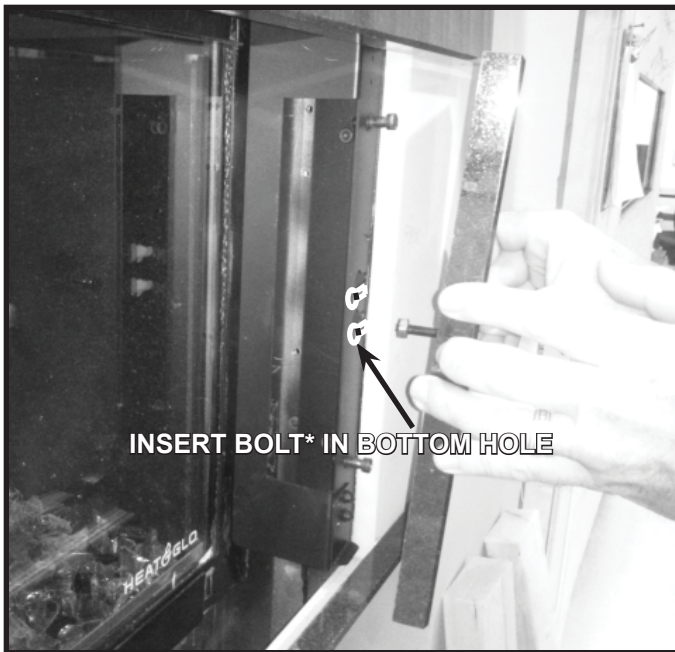
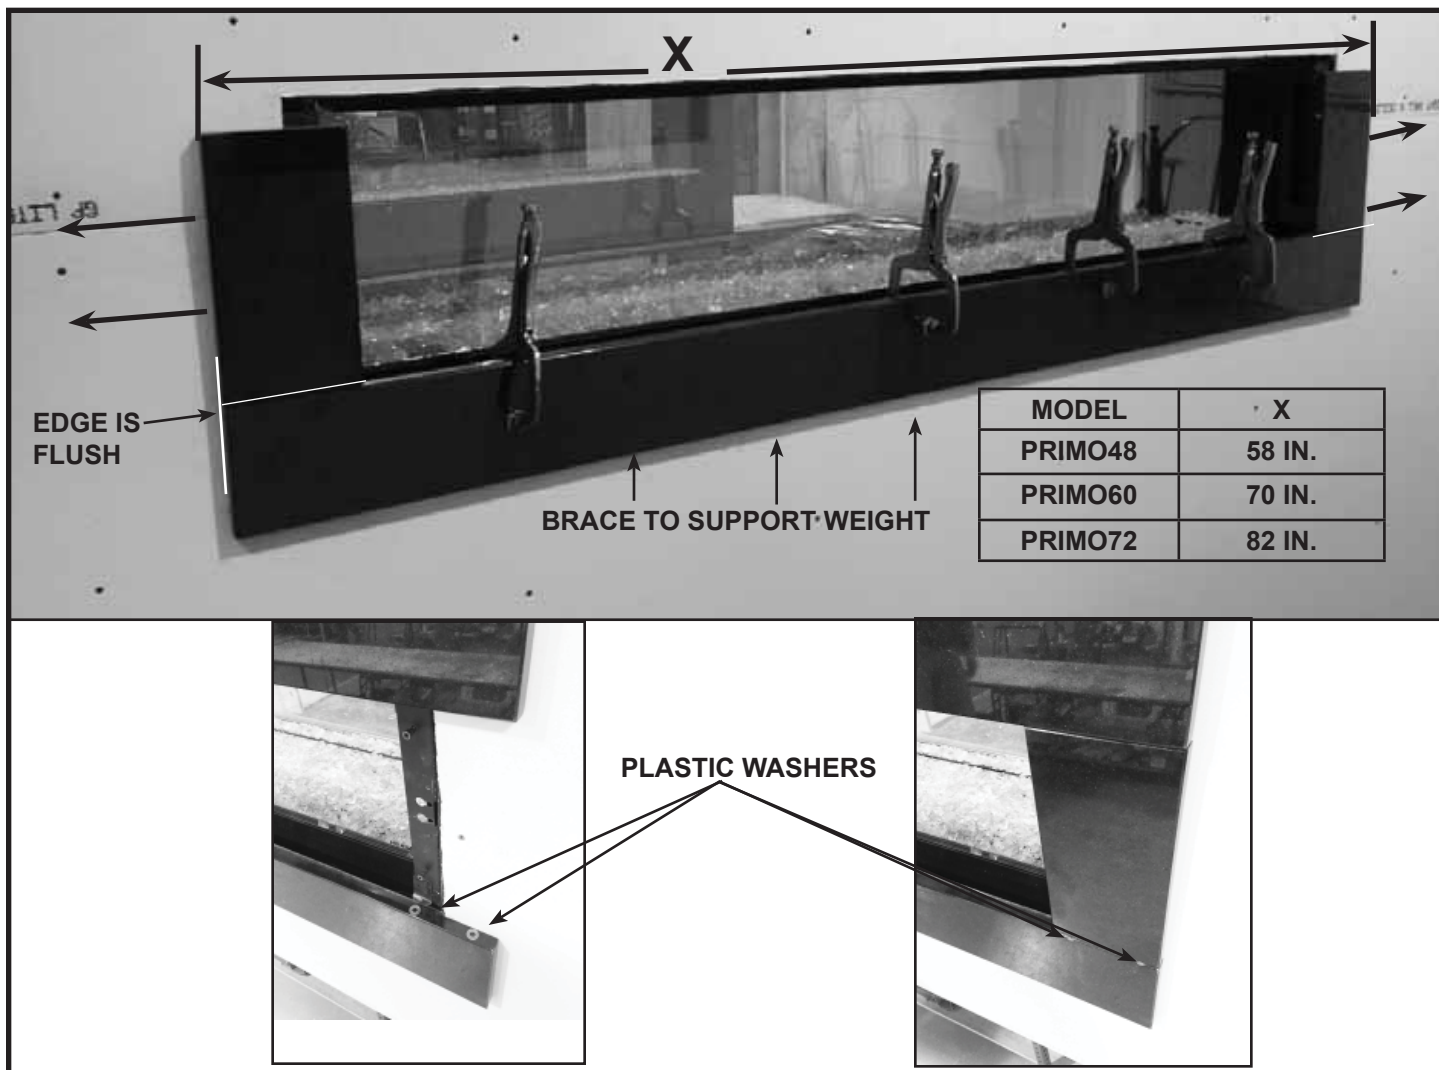

Figure 10.25. Install Side Granite Pieces
Figure 10.29 Bottom Granite Piece Installed
3. Install right outside granite by aligning the bolts on the back of the granite piece with bottom hole on granite transition panel bracket. Insert the bolt* in the bottom slot. See Figure 10.25. Align and slide toward outside of appliance. Repeat with left side granite.
NOTICE! Verify the left and right side granite locations before installing the top and bottom granite. See Figures 10.25, 10.27, 10.29.
4. Slide both side granite pieces outward as shown in Figure 10.29. Verify dimensions in Figure 10.25, 10.27 and 10.29.
5. Place plastic washers as shown in Figure 10.29. The washers serve as spacers for granite placement. If washers are not used, the side granite will be difficult to remove.
NOTICE! Verify the left and right side granite is correctly installed per Figure 10.25, 10.27 and 10.29.
7. Align the top edge with the bottom of the left and right outside pieces so the edges of the bottom piece are flush with the side pieces. See Figure 10.29. Secure the bottom granite in place with clamps or braces. See Figure 10.29. Do not remove supports or operate fireplace for 24 hours.
18. Reinstall side granite. See Figure 10.25.